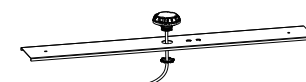
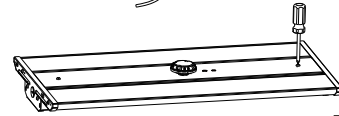

Figure 13
Figure 14
Step2. Knock off the knockout on the cover, install the sensor on the cover(Figure 13), and connect the wiring according to the wiring instructions.Step3.Assemble the cover back onto the fixture (Figure 14) After the fixture is light on, use the remote control to adjust the working mode of the sensor as per your need.